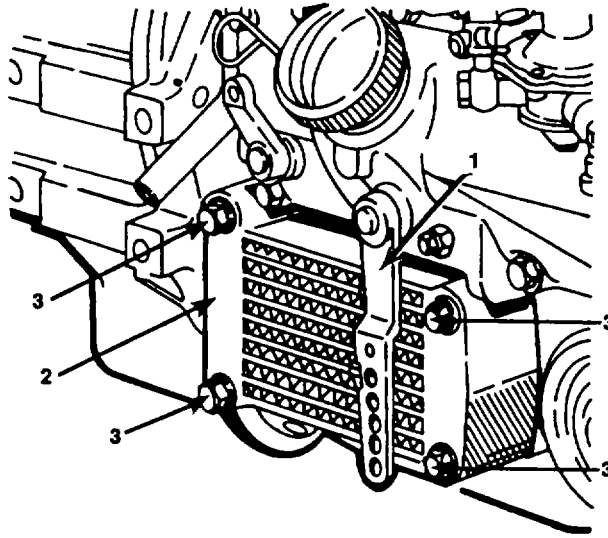

Figure 3-24. Lube Oil Cooler/Removal
- a Inspect oil cooler (figure 3-24) for leaks, damage, accumulated dirt, and oil.
- b To clean oil cooler, remove speed control lever (1) and remove four fastening bolts (3).
- c Remove cooler (2), being careful not to let oil spilling from the cooler enter between the fins. Cap lube oil cooler so contaminants do not enter oil cooler.